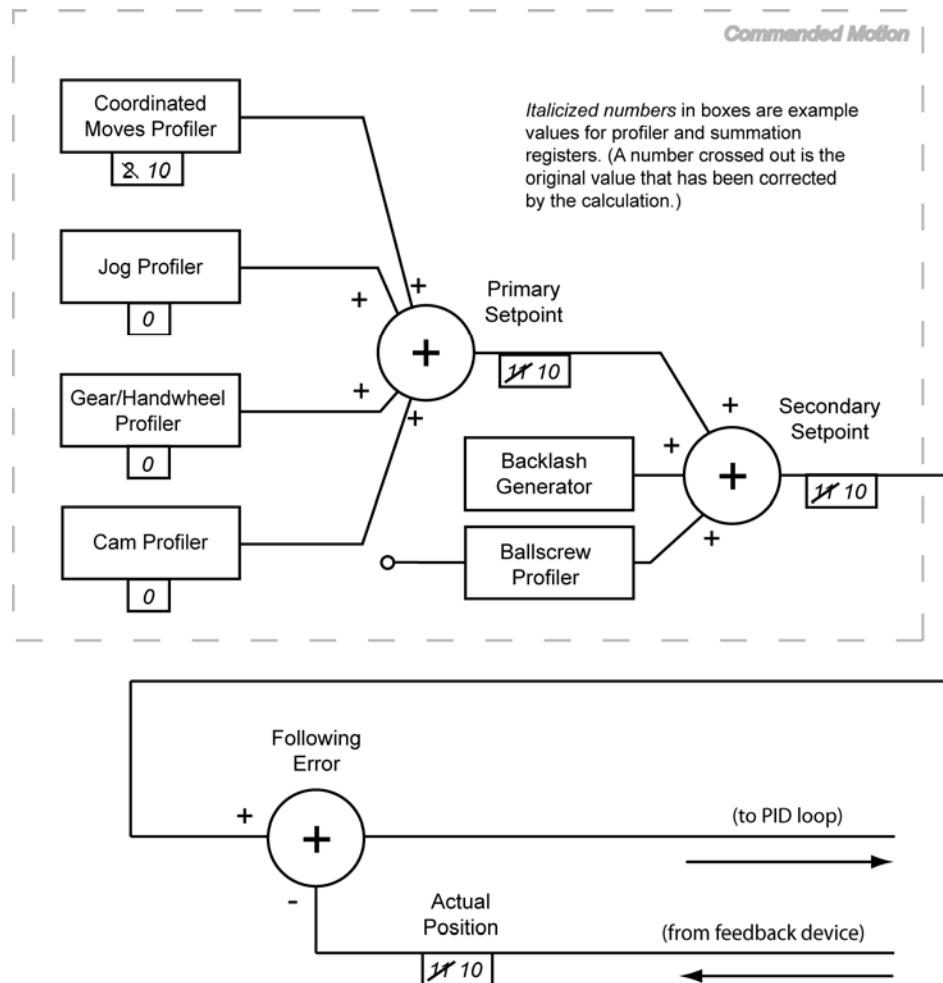

Figure 3 Register Values for **RES X10**
See Figure 3 for a diagram of the profiler and summation registers for the command **RES X10**. The values of the Coordinated Moves Profiler, Primary and Secondary Setpoints, and Actual Position registers have been changed to 10. The remaining profilers have been changed to zero.
If **RES** is used without an axis and preload value, all the registers shown in Figure 3 would be zero (0).